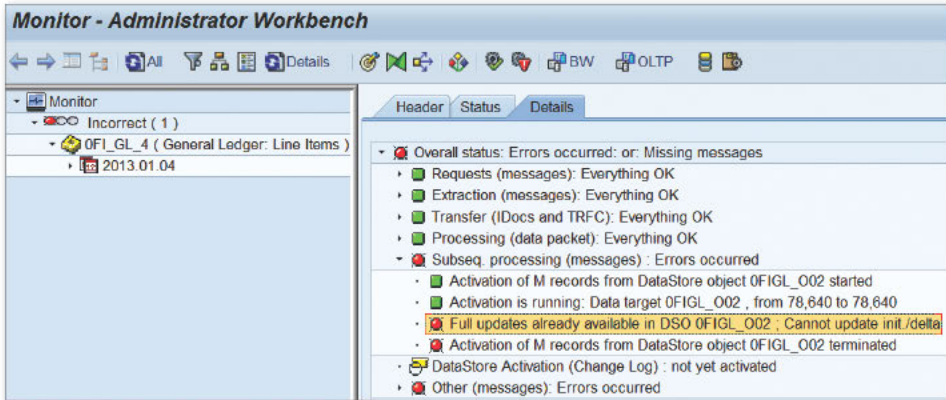

Figure 1 Monitor Screen Showing Failed Full Repair Load
1. Go to the Administrator Workbench in SAP NetWeaver BW, and click the DETAILS tab as shown in Figure 1. In the case of a failed load, you'll see the red stoplight with the message mentioned previously.